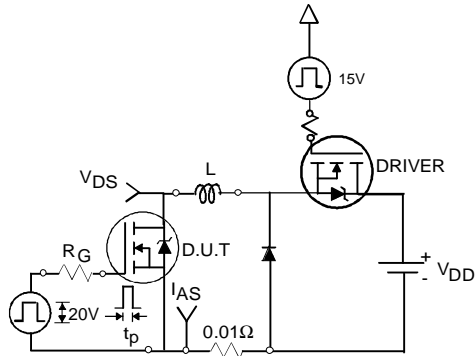

Fig 12a. Unclamped Inductive Test Circuit
3. Equation below based on circuit and waveforms shown in Figures 12a, 12b.
- ④ Pulse width $\leq 400\mu\text{s}$; duty cycle $\leq 2\%$.
- ⑤ C_{OSS} eff. is a fixed capacitance that gives the same charging time as C_{OSS} while V_{DS} is rising from 0 to 80% V_{DSS} .
- ⑥ Calculated continuous current based on maximum allowable junction temperature. Package limitation current is 75A.
- ⑦ Limited by T_{Jmax} , see Fig.12a, 12b, 15, 16 for typical repetitive avalanche performance.